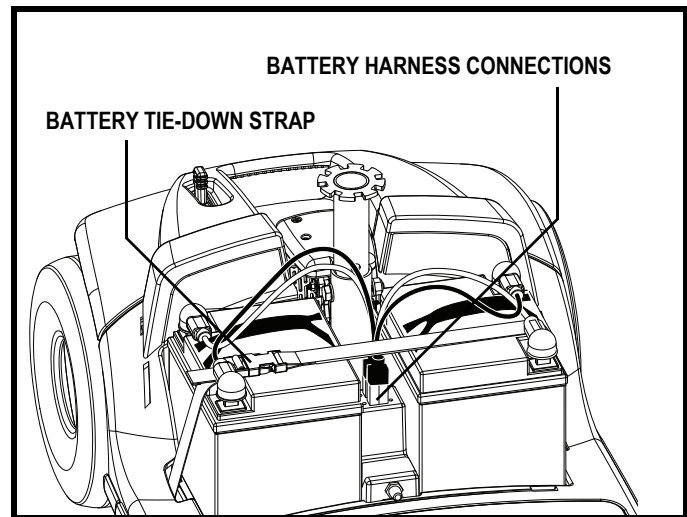

Figure 21. Harness Connections
4. Unplug both battery harnesses by pulling each harness straight up. **See figure 21.**
2. Connect both battery harnesses. **See figure 21.**